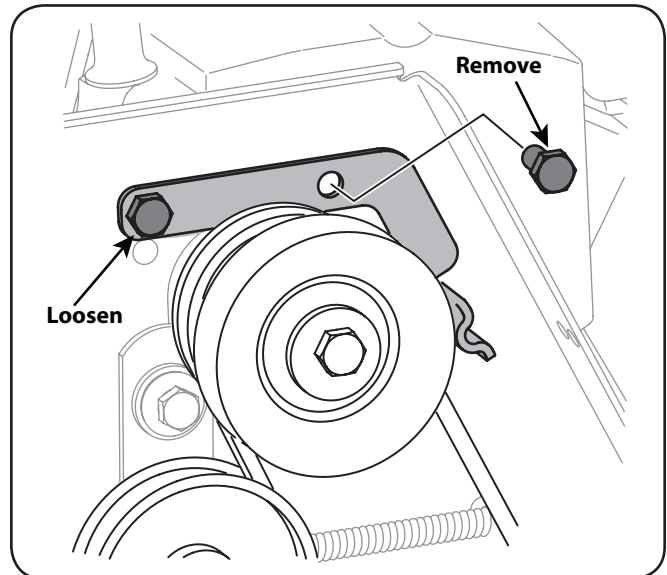

Figure 7-3
4. Loosen the bolt shown in Figure 7-3 securing the belt keeper bracket and remove the other bolt. Push the belt keeper bracket up off the engine pulley. Refer to Figure 7-3.